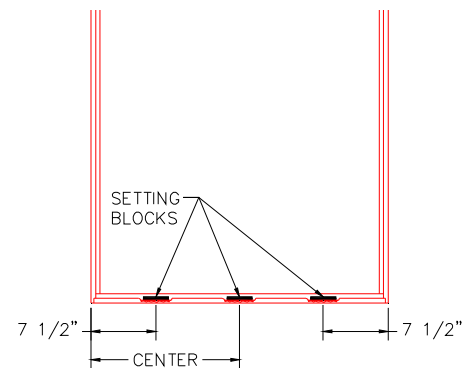

Figure C2:
2. Locate the setting blocks at 7 1/2" from each end and one in the center. Apply sealant to the underside of the setting blocks and place them into the sill (Figure C2).